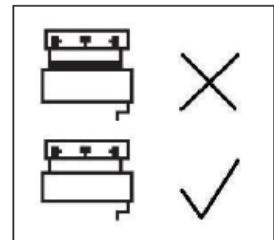
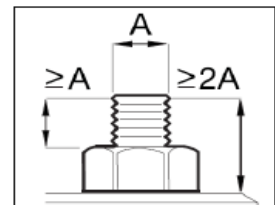

Figure 1
Figure 2
- Never leave a pressurized system unattended. If you must leave the area, please stop the pump, fully release the pressure and ensure that hydraulic pressure gauge indicates zero (0) psi/bar.
- The total protruding length of the stud (from joint surface to end of stud) must be at least twice the length of the exposed portion of the stud (see figure 2). Do not operate the pump before the connection is not completed. (See figure 1) Never attempt to disconnect a hydraulic coupler while it is under pressure
4.1 Position the socket over the nut. Ensure that the socket fits over the nut without force (see A). The total protruding length of the stud (from joint surface to end of stud) must be at least twice the length of the exposed portion of the stud (see figure 2). For round nut, do not need the socket.